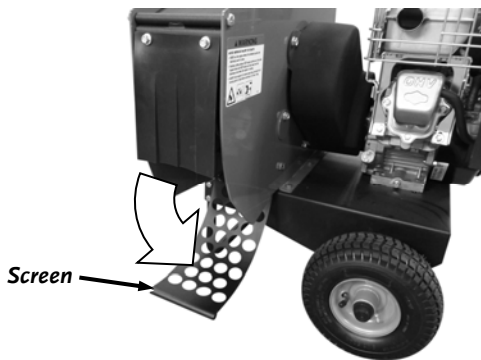

Figure 31
2. Rotate the Screen down to gain access to the Cutting Chamber (**Figure 31**).